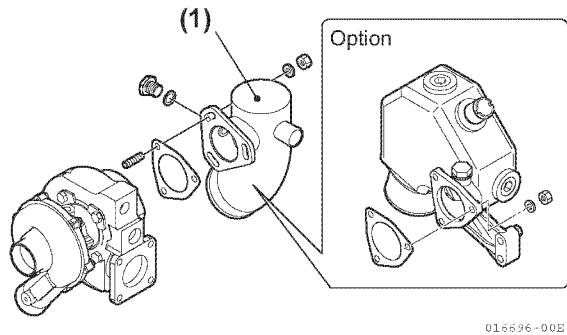

Figure 9-5
(Figure 9-5, (1)) and 4JH4-HTE